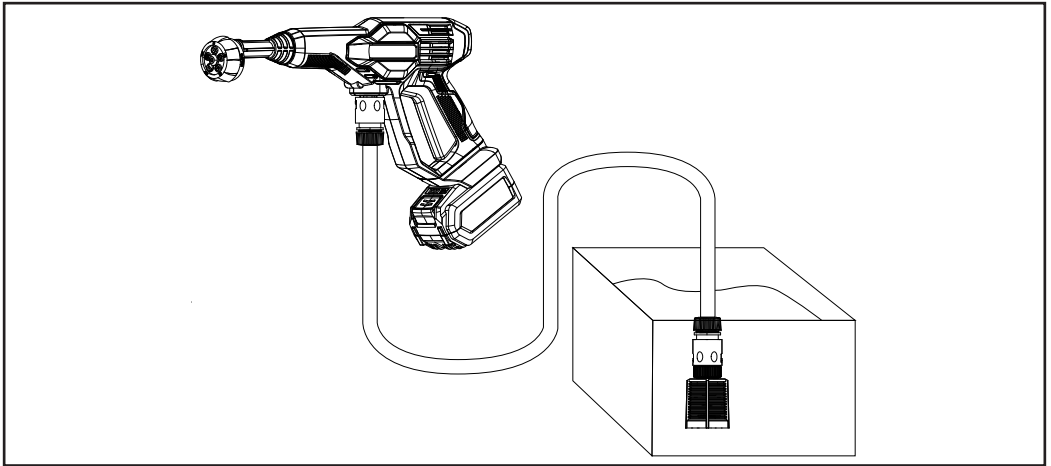

Fig. 6
1. Attach one end of the suction hose onto the water inlet adaptor and then keep the other end in the water source. (Fig. 6)